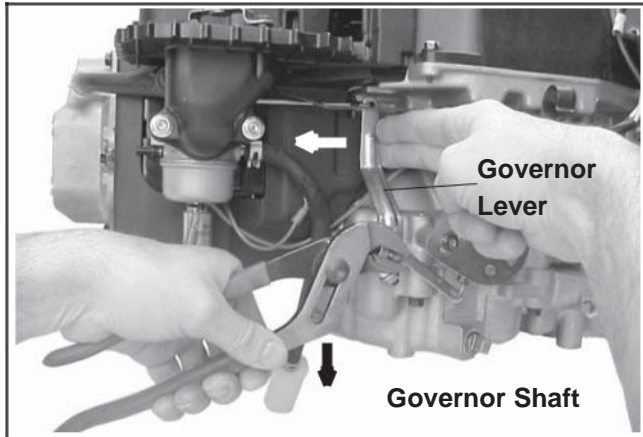

Figure 11-66. Adjusting the Governor.
- b. Grasp the cross shaft with a pliers and turn the shaft **couterclockwise** as far as it will go, then tighten the hex. nut securely. See Figure 11-66.